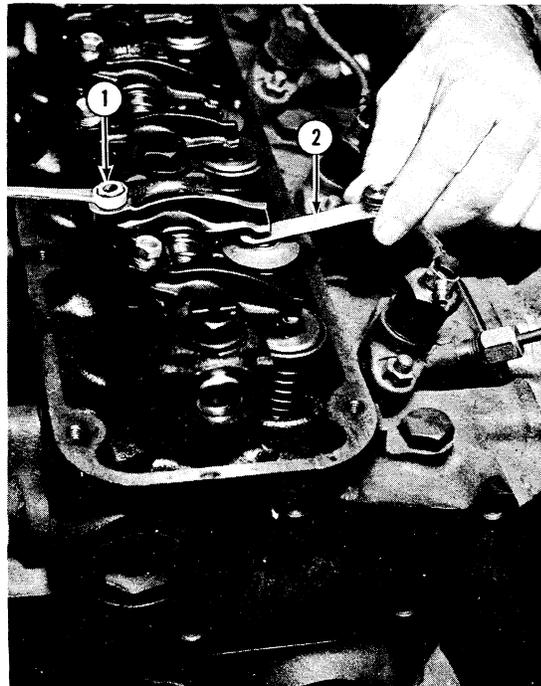

Figure 15
3. Rotate the engine and set the valve lash Figure 15. See specification, Chapter 5 for specified limits. Install injectors with new washers and cork seals. Tighten progressively to the specified torque, Chapter 4, and install the leak-off line with new washers.